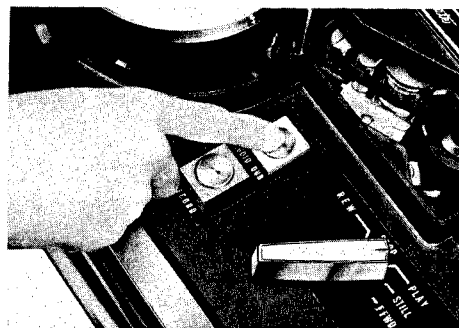
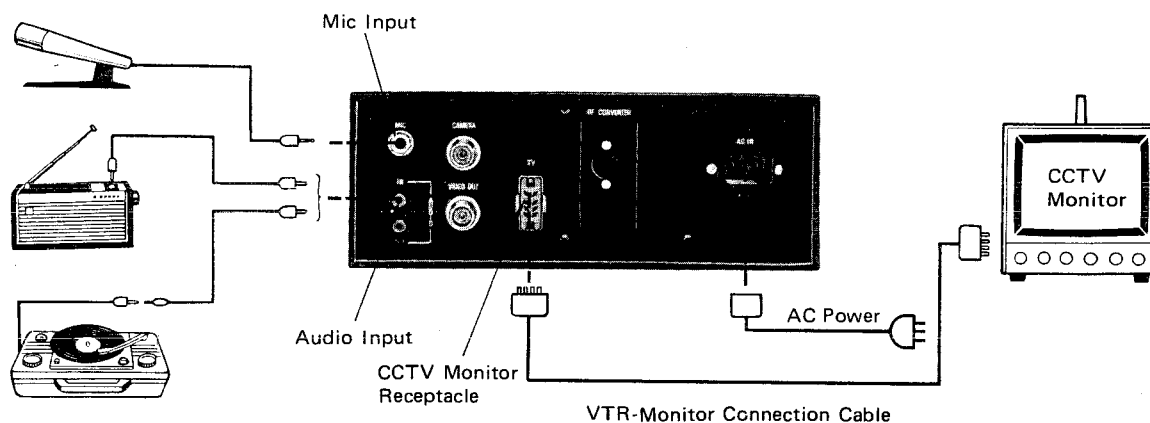

Fig. 25
Fig. 26
1. Connect audio recording source(s) as shown in Fig. 26.
2. Slide the TV/Camera Selector ⑳ to the CAMERA side.
4. Play back the tape and press the Audio Dubbing Button ⑭ when you wish to record sound while monitoring playback pictures (Fig. 25).
5. Turn the Function Lever ⑮ to the STOP position to finish audio dubbing.